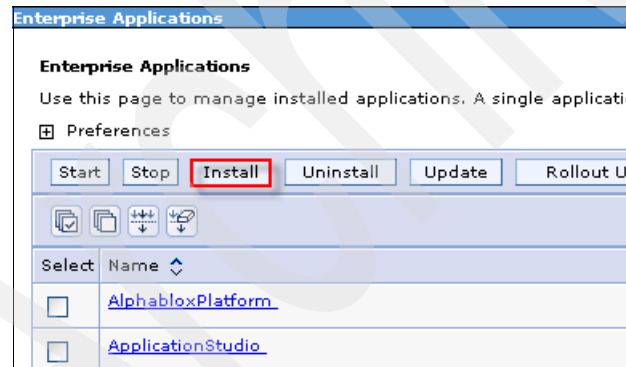

Figure 7-22 Enterprise Applications panel
2. In the Enterprise Applications panel (Figure 7-22), click **Install**.